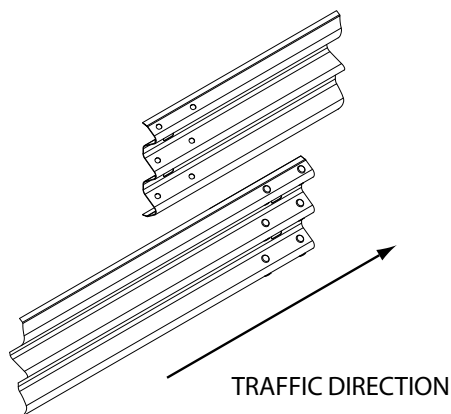

Figure 16: Orientation of Rail Lap
11. Rails are orientated so that no leading edge is presented to the traffic face as shown in Figure 16.